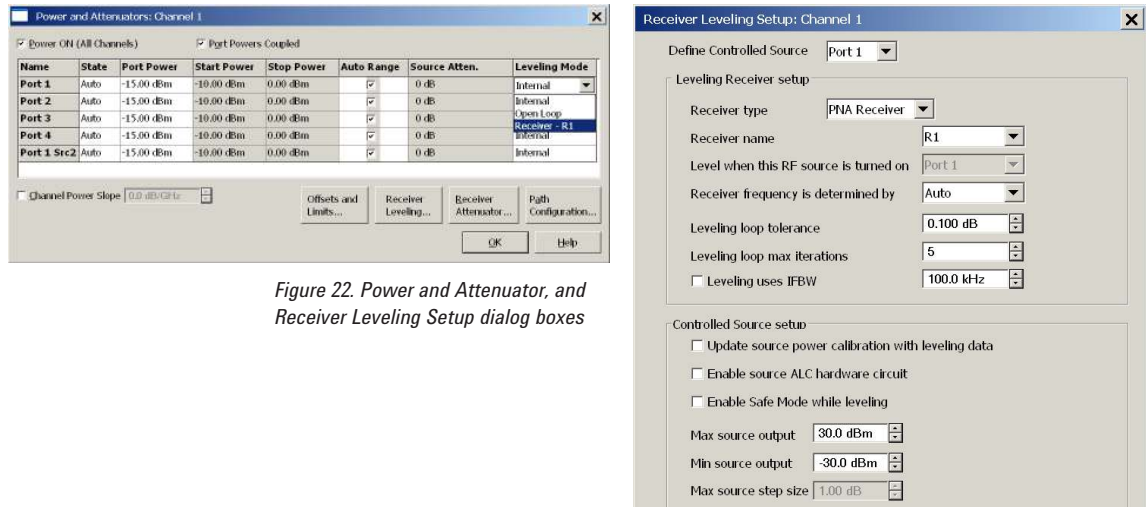
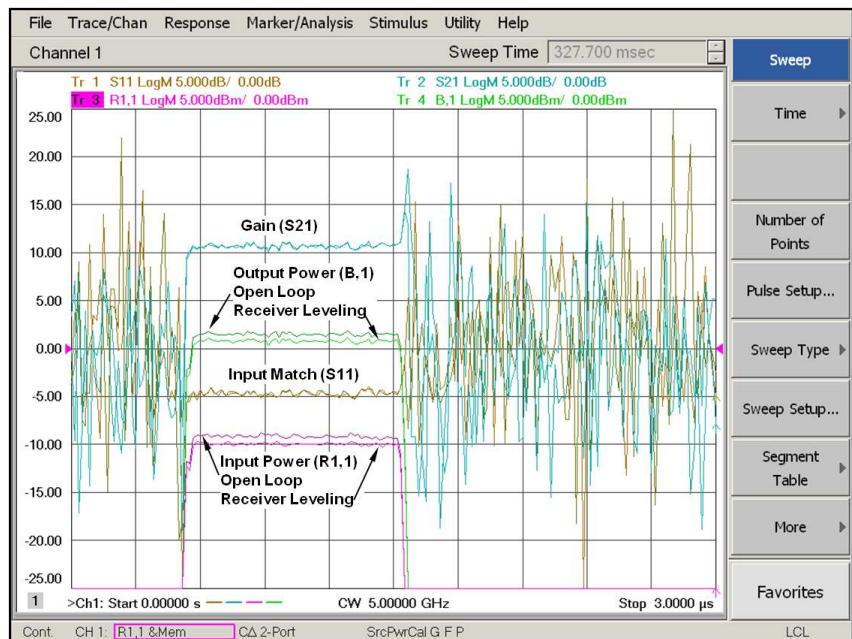

Figure 22. Power and Attenuator, and Receiver Leveling Setup dialog boxes
Figure 27. Narrowband pulse profile with "last receiver leveling result" used for source power calibration
The stimulus power of every PNA-X has been calibrated at the factory with continuous-wave (CW) with a default setting to cover the entire frequency range of the analyzer. This allows reasonably accurate stimulus power level at the test ports even without source power calibration. The PNA-X monitors and adjusts the source's automatic level control (ALC) internally to maintain the specified power level. This is called "internal" leveling mode and is used in most measurement setups. However, the internal detectors do not measure correct peak power of the pulsed stimulus resulting in ALC-unleveled errors. For pulsed-RF measurements the internal leveling has to be turned off by changing the leveling mode to "open loop." This prevents the ALC errors but at a cost of source level accuracy. There are three accuracy errors with open loop leveling mode: level offset, sweep-to-sweep, and band-crossing level inconsistency. The level offset and band-crossing level inconsistency are typically within a few dB and they are repeatable. This means that the source power calibration can correct these errors. The power-sensor-loss feature must be used to calibrate the pulsed-RF power, because the average pulse power is lower than the peak pulse power by  $10 \cdot \log(\text{duty cycle})$ ; refer to the next section for how to calibrate pulsed stimulus power. The sweep-to-sweep error is typically very small (typically less than 0.1 dB but it could be larger), appears as a short-term drift which the source power calibration cannot correct. All of these open loop errors can be minimized by using the "receiver" leveling mode, which uses a VNA receiver to monitor the pulsed-RF power and correct the source power level on every measurement sweep. Once receiver leveling is selected, the source level is adjusted with the receiver readings, thus the source power correction coefficients are ignored (source power calibration is not used even if it is turned on). The leveling mode can be setup in Power and Attenuators, and Receiver Leveling Setup dialog boxes as shown in Figure 22.
In pulse profile measurements, regardless of wideband or narrowband detection techniques, receivers measure signals inside of pulses as well as noise outside of pulses. If receiver leveling is used while the receivers measure noise, the source tries to adjust the source power by referencing the noise measurements causing source unlevelled errors. Alternatively, the analyzer can remember the previous receiver leveling during the stimulus on condition, and use it as source power correction coefficients to improve the level accuracy. Receiver leveling must be turned on once with the pulse modulators turned off. Follow this procedure: turn off the pulse modulator, perform a calibration, switch to the receiver leveling, select "Update source power calibration with leveling data," switch to the Open Loop leveling mode, then turn on the pulse modulator. Once the receiver leveling result is used for source power cal ("Update source power calibration with leveling data" can be found in the "Receiver Leveling" dialog box shown in Figure 22), the pulsed stimulus level becomes reasonably accurate in pulse profile measurements, as shown in Figure 27.